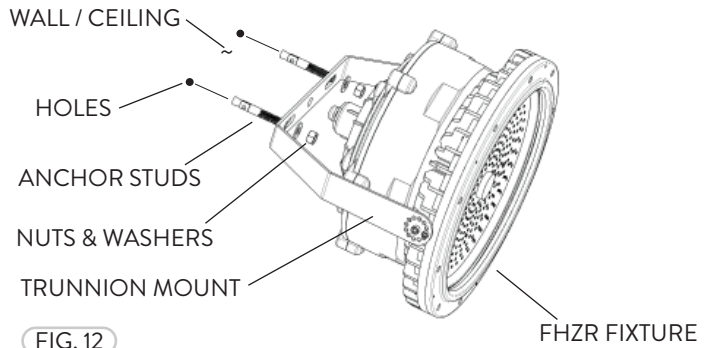

FIG. 12
- 4 Fasten the Trunnion Mount to the mounting surface (Wall or Ceiling) with the appropriate bolts (may vary depending on the mounting surface) by a certified personnel (Fig. 12). Refer to #2. or #3. for dimensions.